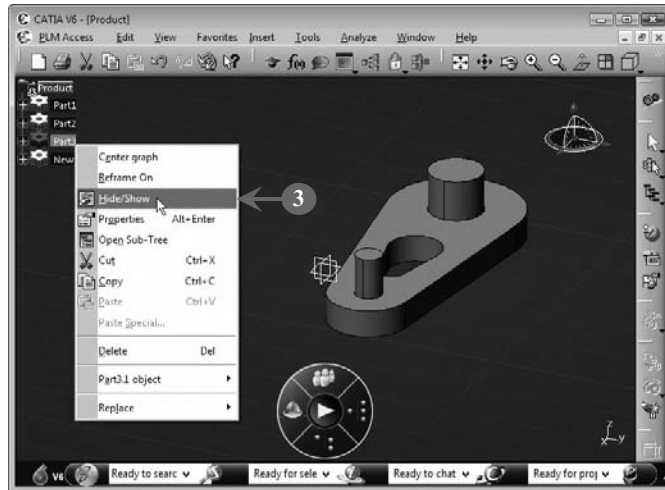

FIGURE 4.36
The selected assembly component is hidden (**Figure 4.36**).
3. Now, *right-click* the assembly component in the specification tree and *select* the **Hide/Show** option from the context menu to show the assembly component again, as shown in Figure 4.36: